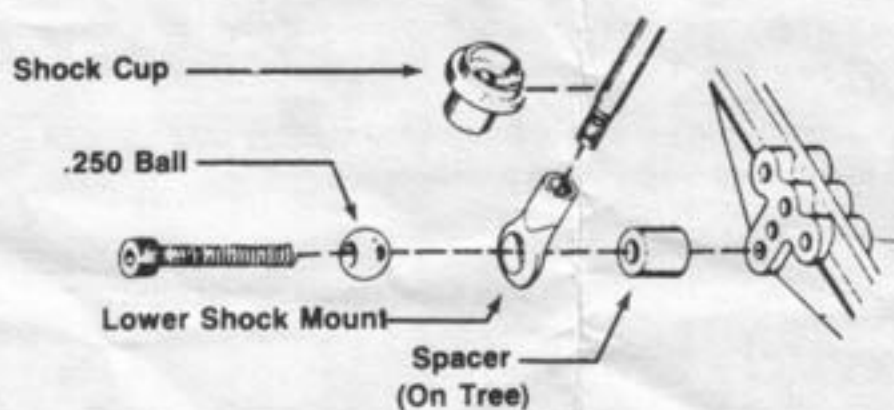

FIG.4
20. Secure lower shock mount provided onto shock shaft. **FIG.4**